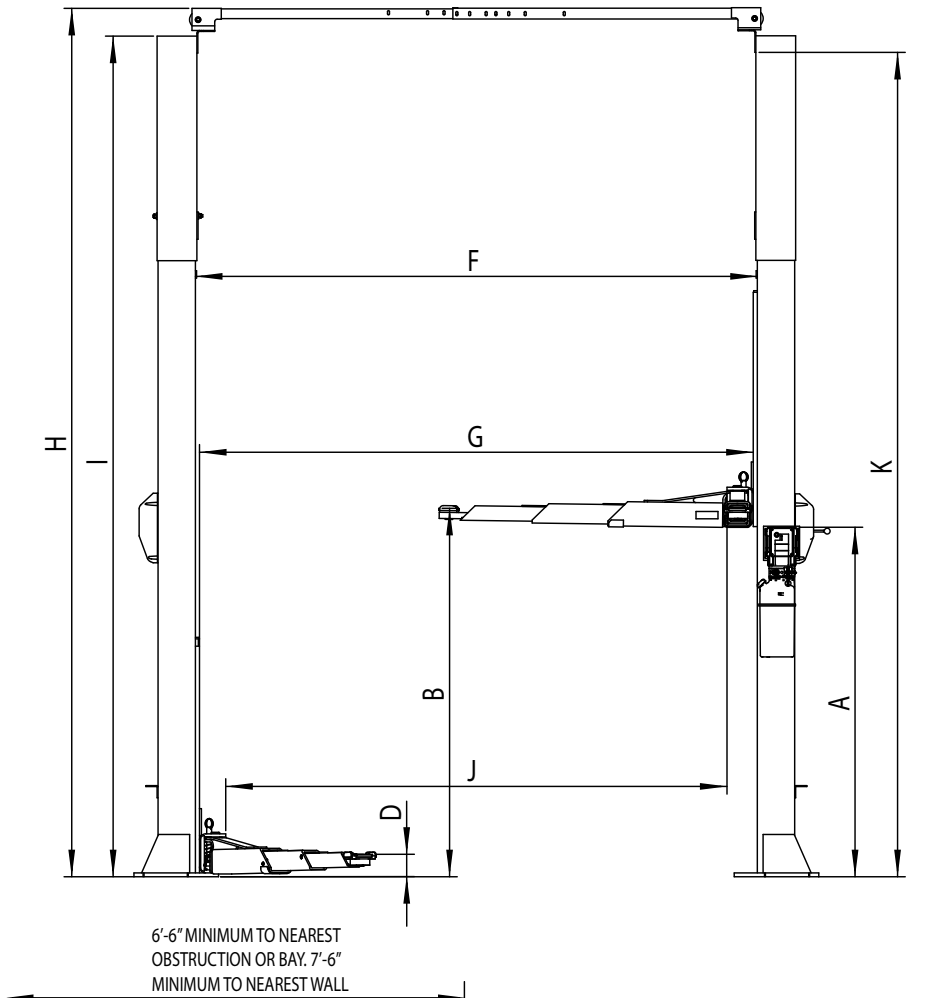
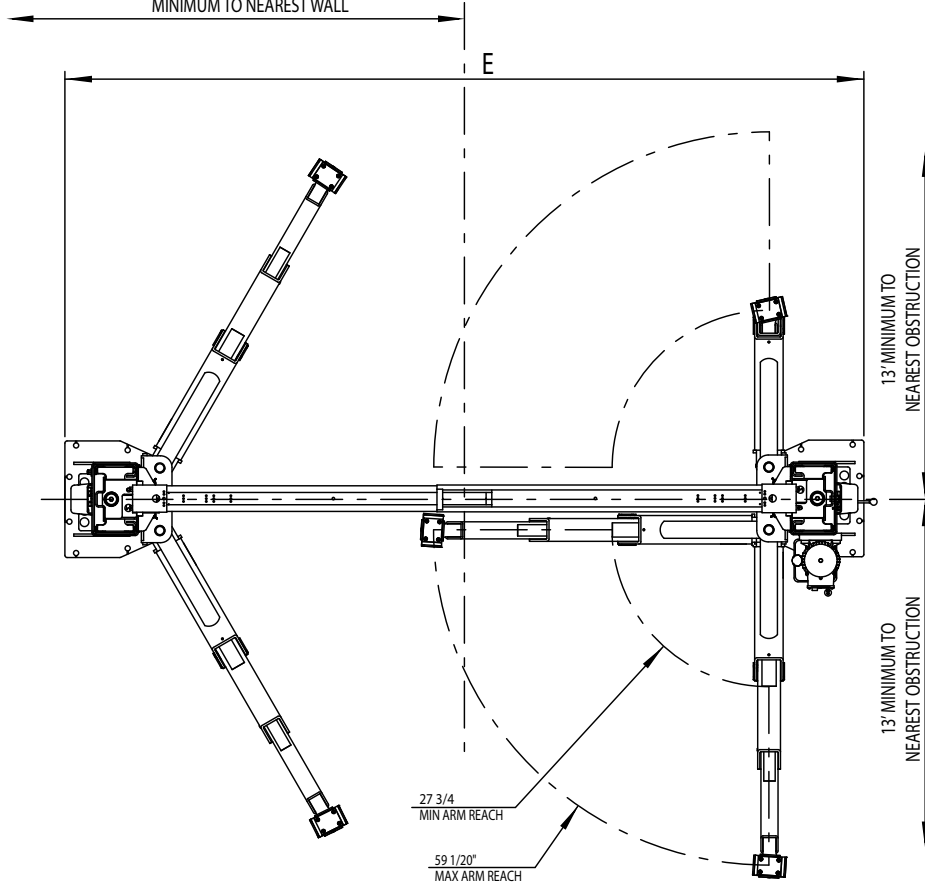

Fig. 1c
Fig. 1d
**1. Lift Location:** Use architects plan when available to locate lift. Fig. 1a, Fig. 1b, Fig. 1c & Fig. 1d shows dimensions of a typical bay layout.
**4. Lift Setting:** Position columns in bay using dimensions shown in Fig. 1a, Fig. 1b, Fig. 1c & Fig. 1d. Place column with power unit mounting bracket on vehicle passenger side of lift. Both column base plate backs must be square on center line of lift. Notches are cut into each base plate to indicate center line of lift. Use appropriate equipment to raise carriage to first latch position. Be sure locking latch is securely engaged.